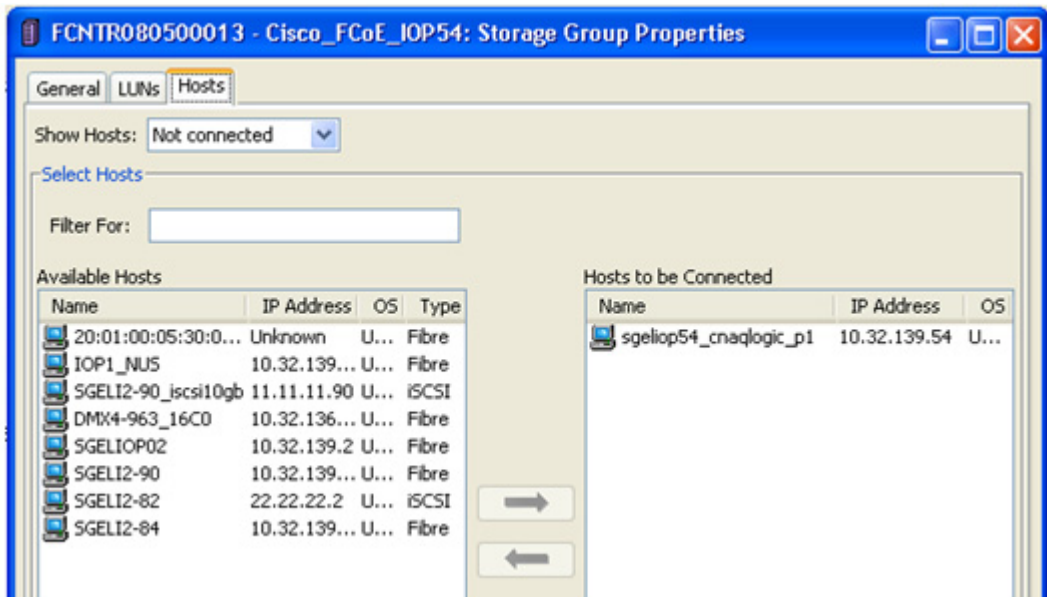

Figure 90 Storage Group Properties window, Hosts tab
- In a VNX series or CLARiiON device, host assignment can be configured and verified in the **Storage Group Properties** window, **Hosts** tab, as shown in the example in Figure 90 on page 244.
In the example shown in Figure 90, the host `sgeliop54_cnaqllogic_p1` is assigned to the `Cisco_FCoE_IOP54` storage group.